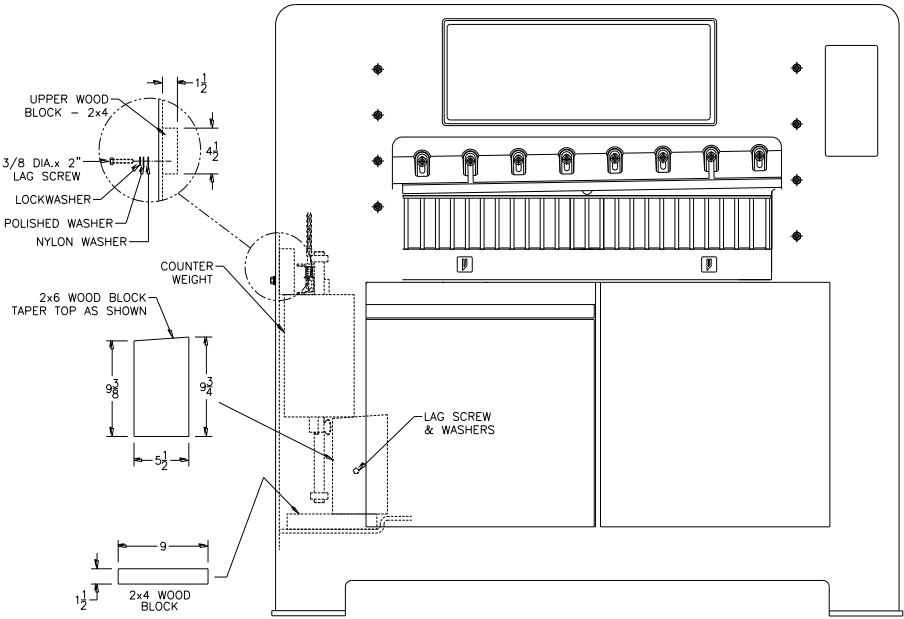

Figure 2
Make sure that both of the rollers, for the counter weight, are riding on the guide shaft. It is possible that during shipping, one may have moved off of the shaft. The rollers are located on the top and bottom of the counter weight. The counter weight is located inside the left front enclosure door behind the clamp cylinder. Make sure if the machine is ever reshipped the counter weight is blocked up so that there is slack in the counter weight chain and the counter weight does not bounce. The counter weight should be blocked/ held up with a wood 2x4 piece of lumber 11-5/8" long. This block needs to be secured in place with a lag screw and washers as shown in figure 2, page 12.
- Block the counter-weight according to page 12, Figure 2 and 3